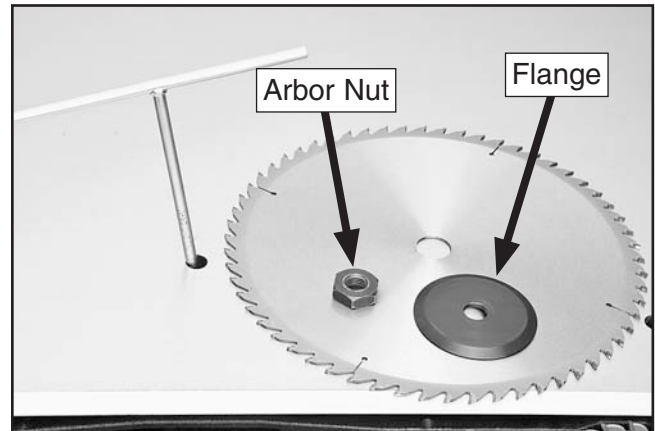

Figure 68. Main blade arbor nut and flange.
6. While holding the T-handle wrench with one hand, rotate the arbor nut clockwise until you can remove it and the flange (see **Figure 68**).